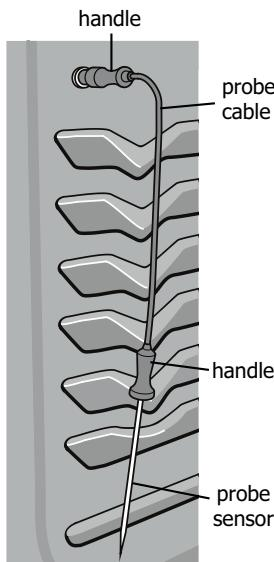

Figure 31: Using the probe
Do not use kitchen utensils to pull on the probe cable or handles. Always insert and remove the probe using the provided handles, as shown in Figure 31, and always use a pot holder to protect hands from possible burns.
2. Plug the connector end of the probe all the way into the probe receptacle while the oven is still cool. The receptacle is located on the upper left front oven cavity wall (See Figure 31).